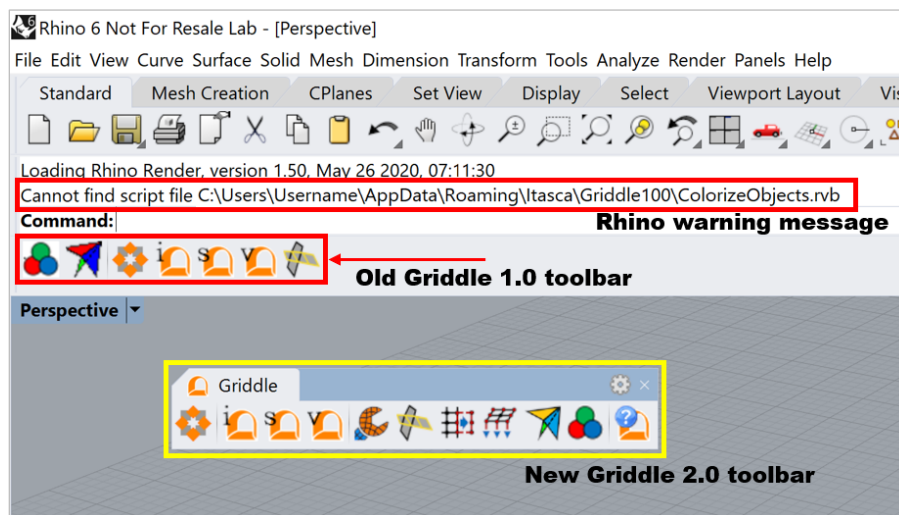

Figure 2: The *Rhino 6* window with *Griddle 1.0* and *Griddle 2.0* toolbars.
3. Figure 2 shows that *Rhino* outputs a warning “Cannot find script file ...ColorizeObjects.rvb”. This message may appear when *Rhino* starts. This occurs because the *Griddle 2.0* installer removes *Griddle 1.0* script files, however, *Rhino* is not aware of that (as these files were originally installed manually). Users may simply ignore this warning or may remove the reference to old scripts in *Rhino* to not have the warning. To do so, use the menu items **Tools** → **Options** → **RhinoScript**. Find “ColorizeObjects.rvb” in the list of scripts and delete it (click on **X**).